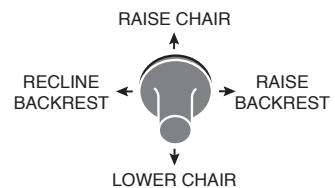

Fig. 6-1 Stick switch (Manual)
- (1) Move the chair to desired position by manual control switches.(Fig.6-1)